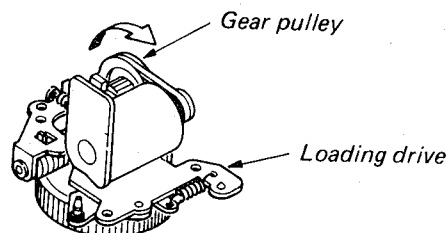

Fig. 1-3-27 Loading drive - FF mode
- 2) Remove the washer ① and disconnect the pinch connector.
- 3) Remove the cam lever stopper and the washer ②, and remove the cam lever assembly upward.
- 4) Turn the gear pulley in direction shown by the arrow until it stops to set the FF/REW mode. (Refer to Fig. 1-3-27)
- 5) Remove the screws ③ and remove the loading drive assembly.
- 6) Remove the loading belt and the screws ④, and remove the motor.
- 9) Confirm timing of the phase gear, refer to the item 1-4-1.